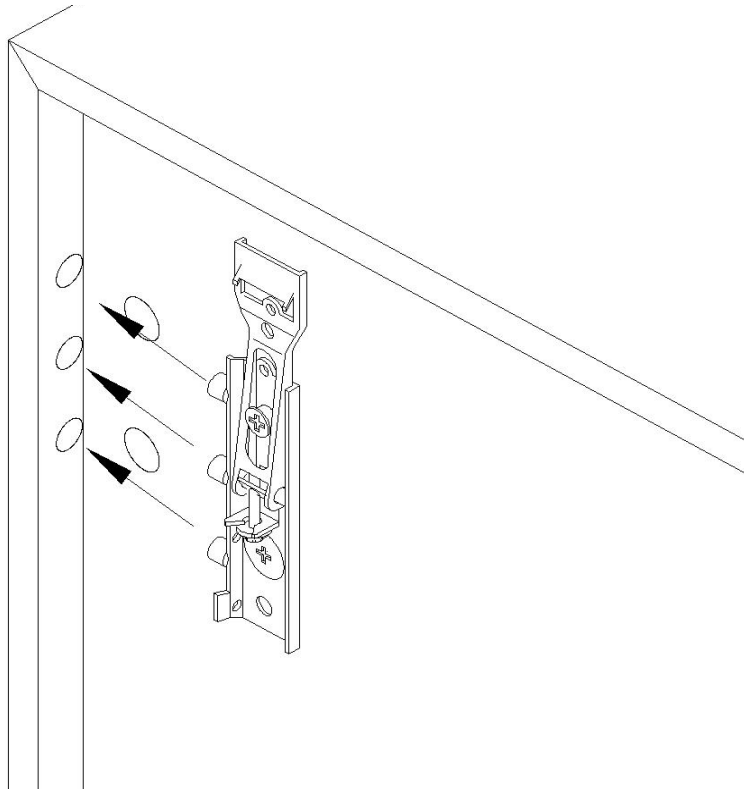

Figure B.1
1. Locate the left and right side hanging brackets for each box. Insert the brackets into the back side of the box by inserting the three guide prongs into the predrilled holes along the sides. (See Fig. B.1) The use of a dead blow hammer may be needed to fully insert the brackets into the box. Once inserted properly, the tab along the bottom of the bracket should be flush against the side of the box.